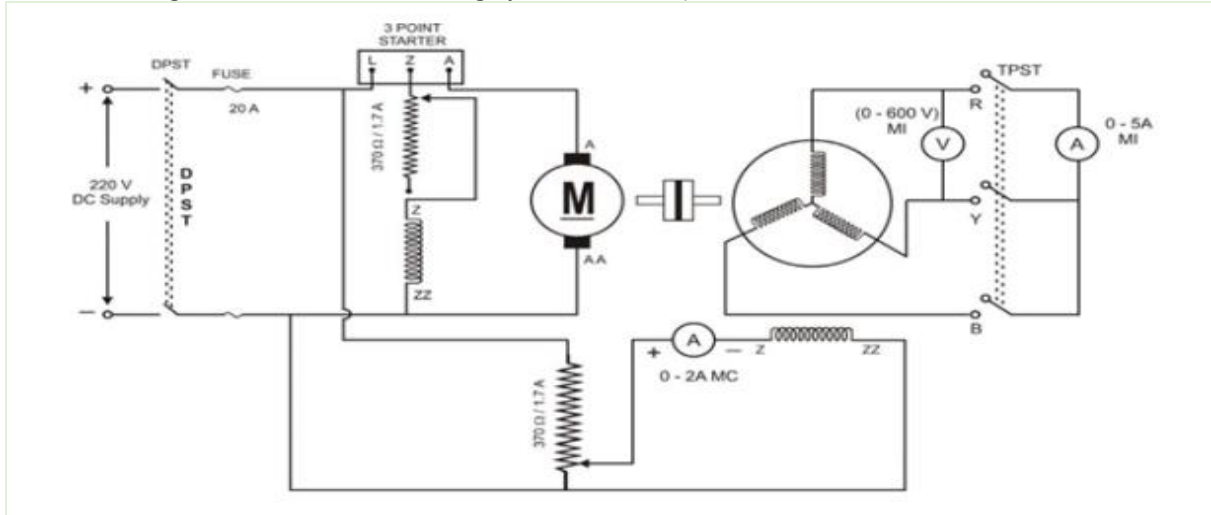

Figure 9 - REGULATION OF ALTERNATOR BY EMF METHOD
1. Calculate the OCV from the circuit from Figure 9.